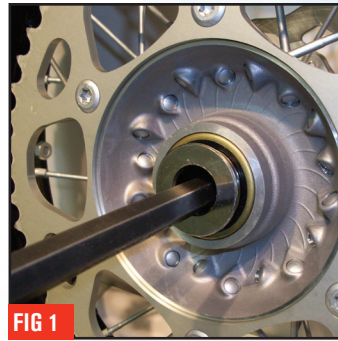
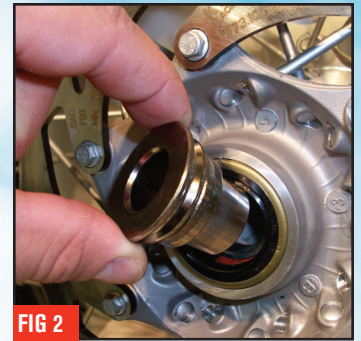

FIG 1
FIG 2
- 3 Insert a long punch (with a good square edge) into the center of the aluminum wheel bearing spacers and push up against the inner edge of the spacer on the opposite side of the wheel (Fig. 1). Using a hammer, tap the punch around the entire circumference of the spacer until it completely slides out of the bearing (Fig. 2). Turn the wheel over and remove the other spacer in the same way.